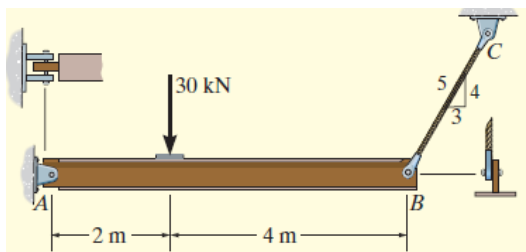

Fig. 3a
3. Determine the average shear stress in the 20-mm-diameter pin at A and the 30-mm-diameter pin at B that support the beam in Fig. 3a.